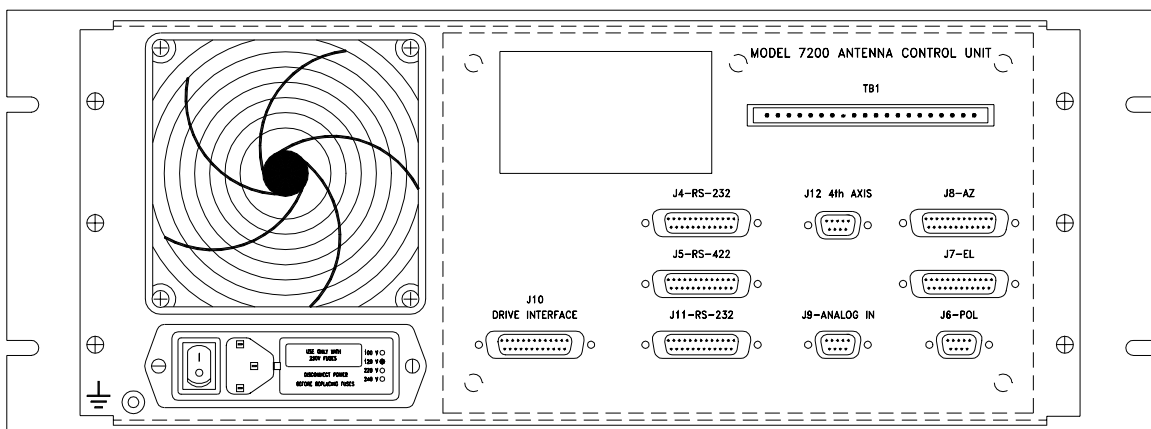

Figure 4-4 7200 Antenna Control Unit Rear Panel
1. Connect one end of the 25-conductor control cable (Belden 8459 or equivalent) to the 25-pin connector labeled DRIVE INTERFACE (J10) on the back of the 7200 ACU (refer to Figure 4-4). Refer to Table 4-4A for a pin-out and the function of each conductor.
1. Connect one pair of the two twisted pair control cable (Belden 8162 or equivalent) to the 25-Pin connector labeled (J5) RS422/485 on the back of the 7200 ACU (refer to Figure 4-4). Refer to Table 4-4B for a pin-out and function of each conductor.
Connect each end of the respective cables to the POL resolver and J6, and the 4th Axis resolver and J12. Use the following correlation shown in Table 4-6A. J6 & J12 are 9-pin D connectors. Refer to Figure 4-4 for location of the connectors on the ACU.
The connections for two-speed, size 20 resolvers are provided in Table 4-6B. Connect each end of the respective cables to the AZ resolver and J8, and the EL resolver and J7, following the correlation shown below. J7 and J8 are 25-pin D connectors. Refer to Figure 4-4 for location of the connectors on the ACU.